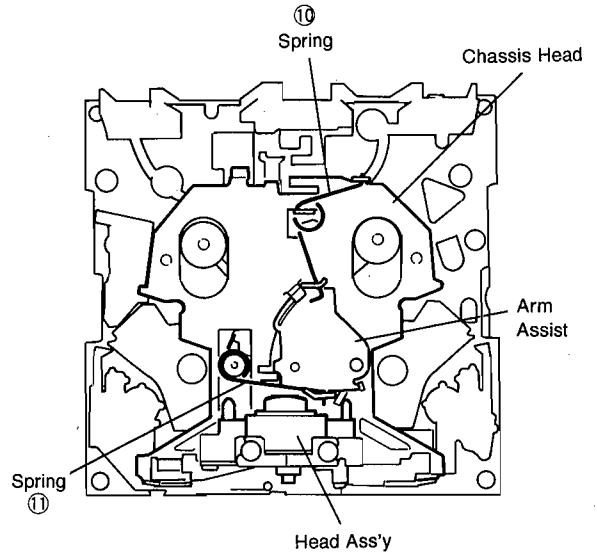

Fig. 6
- b. Detach 2 Springs (10 and 11) and then remove the Arm Assist in Fig. 6.